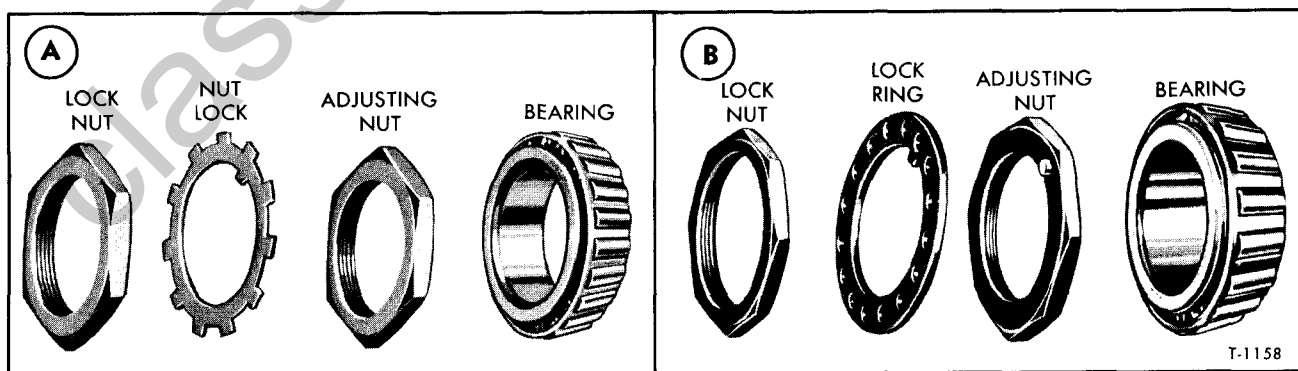

Figure 1—Rear Wheel Bearing Adjustment Nuts
6. Install bearing adjusting nut lock, referring to figure 1.
a. If vehicle is equipped with type shown in View A, figure 1, align flat on adjusting nut with nearest lip of nut lock. Make sure wheel turns freely; then install nut lock and lock nut. Tighten lock nut to 100-150 foot-pounds. Bend one lip of nut lock over one flat on each nut.
b. If vehicle is equipped with type shown in View B, figure 1, align dowel pin of adjusting nut with nearest hole in lock ring. Lock ring may be turned on either side to facilitate alignment of hole with least movement of adjusting nut beyond $1/4$ to $1/3$ turn. Install lock nut and tighten to 250 to 300 foot-pounds torque.